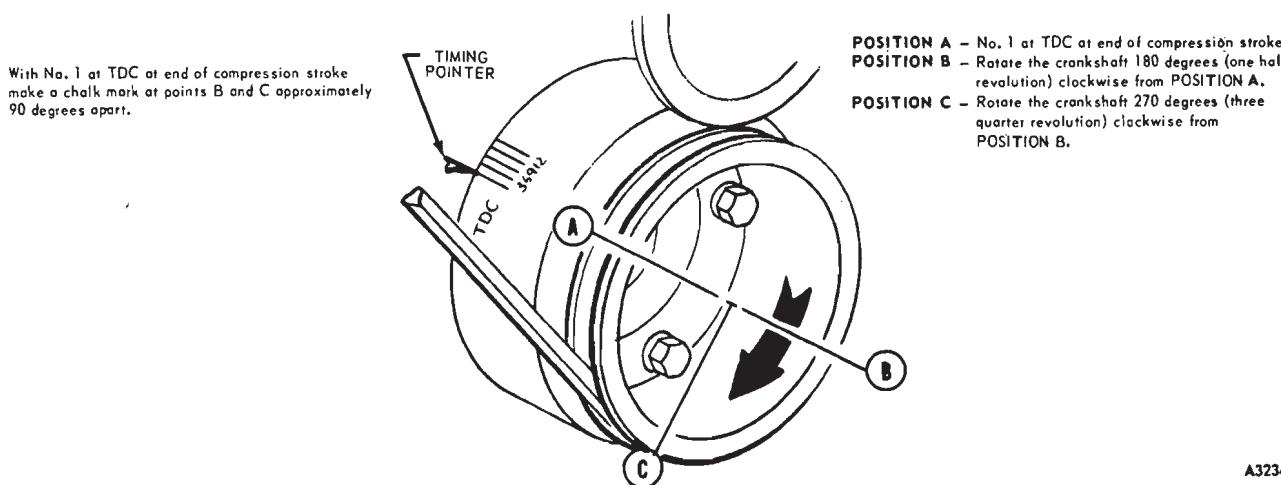

FIG. 11—Position of Crankshaft for Adjusting Valve Lash
**3. Rotate the crankshaft until No. 1 piston is on TDC at the end of the compression stroke, POSITION A in Fig. 11. Adjust the following valves:**
**4. Rotate the crankshaft to POSITION B in Fig. 11. Adjust the following valves:**
**5. Rotate the crankshaft to POSITION C in Fig. 11. Adjust the following valves:**
2. With the engine idling, set the valve clearance (Fig. 11) using a step-type feeler gauge only (go and no go). The final (hot) intake and exhaust valve clearance settings are listed in the Specifications.